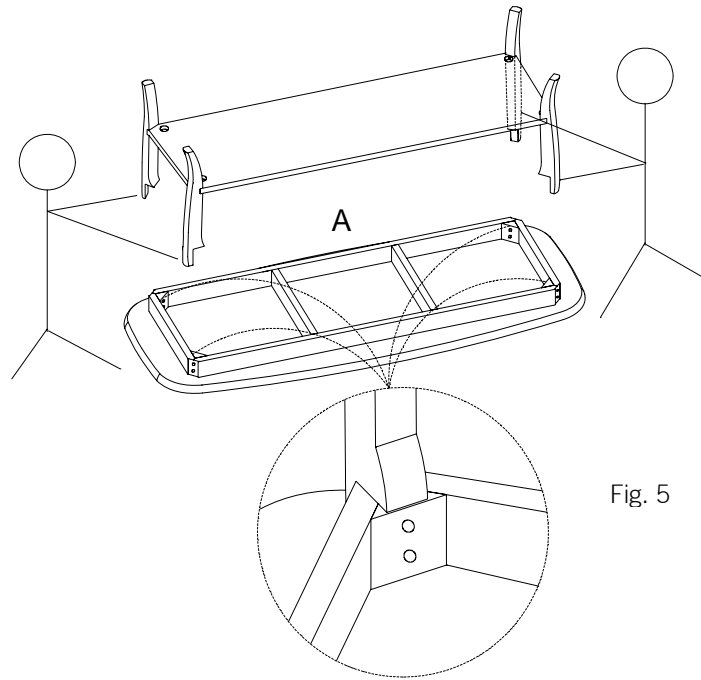

Fig. 5
5. Lay the tabletop (A) upside down on a carpeted or scratch-free work surface (the foam shipped in the carton box works well). Attach the legs with the shelf by aligning the legs with the corner braces on the tabletop (A). (Fig. 5)